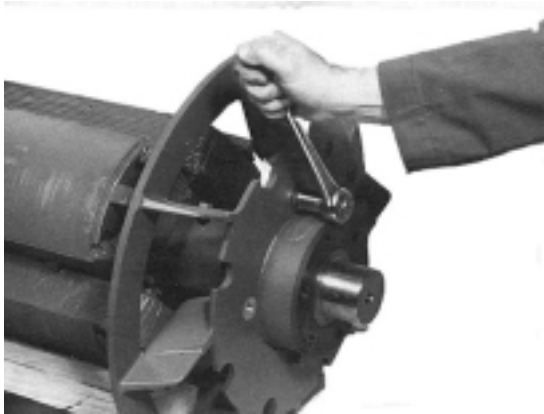
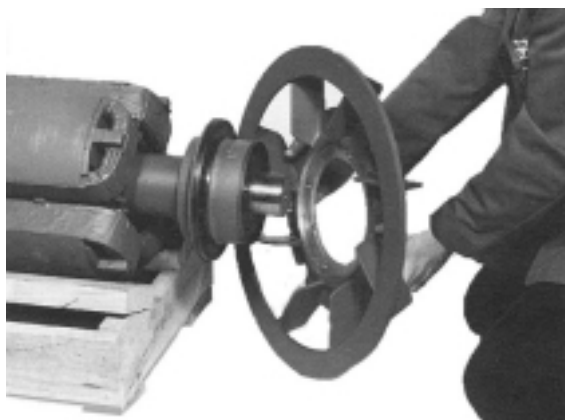

Figure 6-40
Figure 6-41
3. For single bearing generators. Remove the fan mounting cap screws (Figure 6-40) and slide the fan off the shaft. (Figure 6-41.) For two-bearing generators, remove the drive end bearing and bearing cap. (See bearing removal instructions.) Remove the fan mounting cap screws and slide fan off the shaft. (Figure 6-40 and 6-41.)